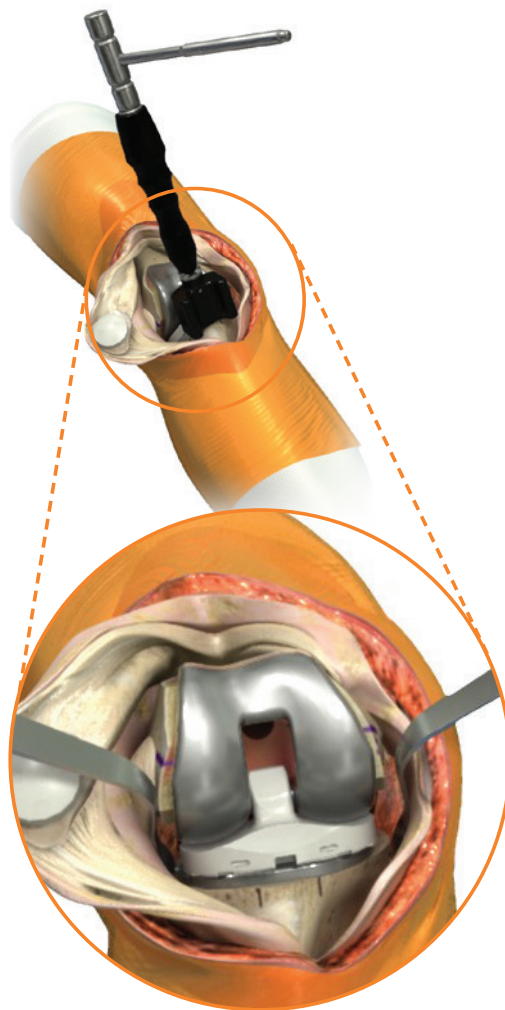

Figure 26f
10. The Articular insert is locked into position using the Modular Tibial Impactor. This should be done when the leg is flexed to around 20-30 degrees and by impacting on the anterior surface of the insert (Figure 26f).